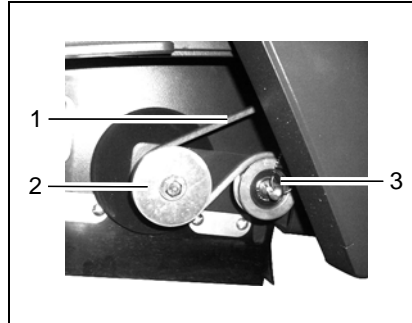

Fig. 42
2. Remove the belt (Fig. 42/1) from the pulleys (Fig. 42/2+3).
The belt tension is set by means of a spring mounted tension pulley (Fig. 42/3).